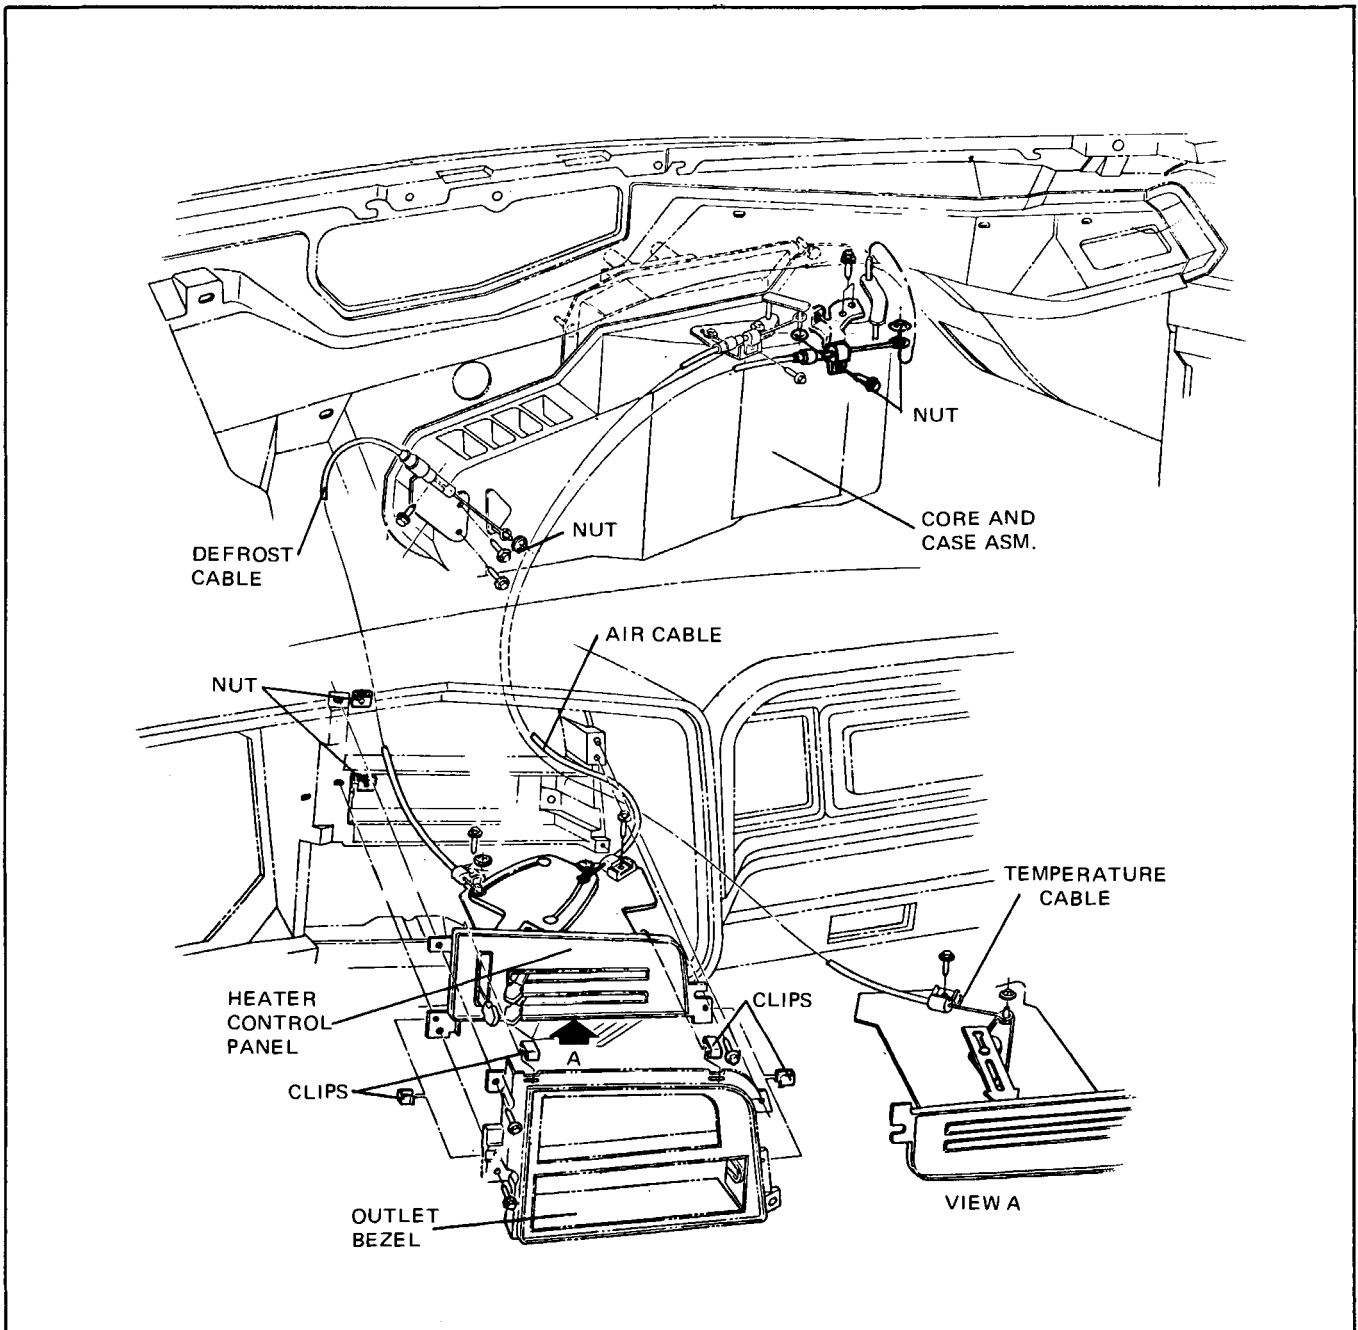

Fig. 1-10 B Series Heater Control Panel and Cables
3. Adjust turnbuckle on temperature control cable (Fig. 1-10) until cable wire loop lines up with pin on temperature door crank.
2. Hold heater case defroster door crank in defrost position (crank rotated full clockwise as viewed from driver position) and adjust turnbuckle on defrost cable (Fig. 1-10) until wire loop on cable lines up with pin on defroster door crank arm.